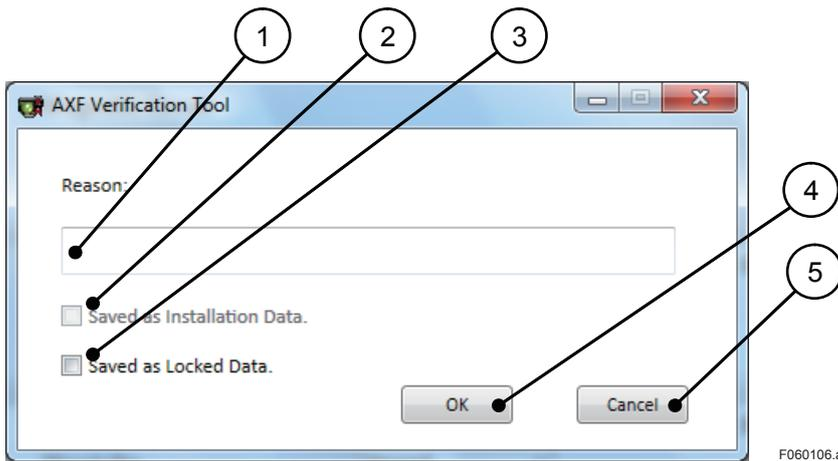

Figure 6.1.6 “Saving Data When “No Flow + Flow” Uncompleted” Dialog
1) After clicking the “Save” icon, **Figure 6.1.6** is displayed.
Click “OK” after checking the “Saved as Locked Data” box in **Figure 6.1.6**.
Click “OK” without checking the “Saved as Locked Data” box in **Figure 6.1.6**.